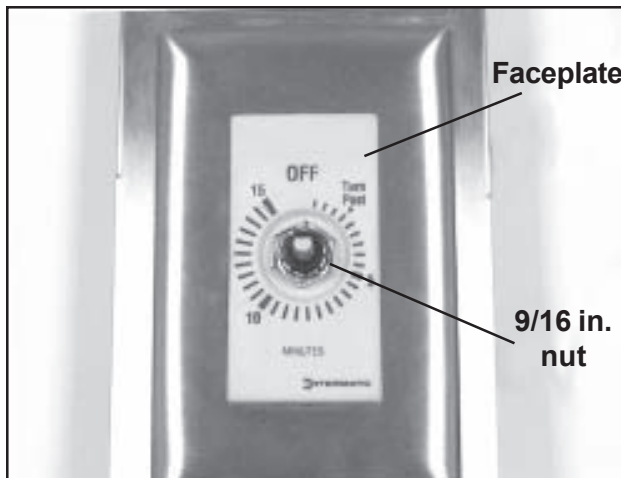

Figure 39. 15-minute Timer - Removing the Faceplate
5. With a 9/16 in. wrench, remove the nut on the threaded portion of the knob shaft (Figure 39).
3. Snap the faceplate into position on the metal cover plate. Make sure it reads right-side up (Figure 39).
4. Screw the nut onto the threaded portion of the knob shaft (Figure 39) and tighten with a 9/16 in. wrench. The open side of the nut should face outward.